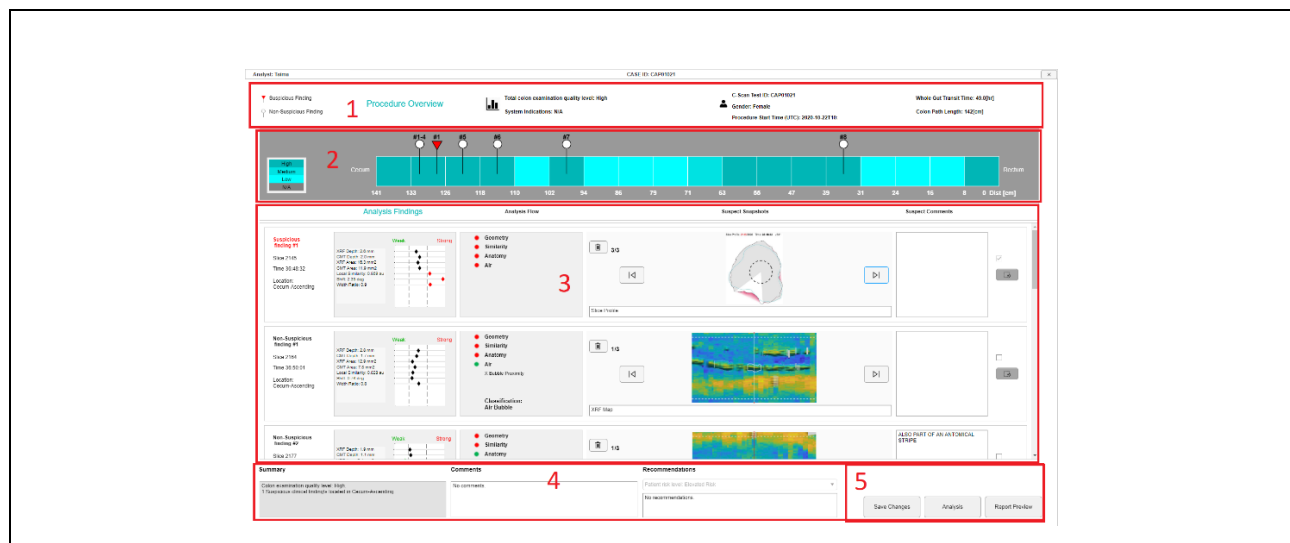

Figure 91: Pre-Analysis Summary Highlights
- Procedure general information (#1 in Figure 91)
- Procedure quality information (#2 in Figure 91)
- Suspicious and Non-suspicious findings table (#3 in Figure 91)
- Procedure summary, comments and recommendations (#4 in Figure 91)
- Action buttons (#5 in Figure 91)
Procedure Overview (#1 in Figure 91) includes:
Procedure quality information (#2 in Figure 91)
Findings table (#3 in Figure 91)
All findings can be viewed with additional data directly in analysis window by clicking the **Analysis** button (see #5 in Figure 91) or the **jump to suspect analysis** button  to jump to a specific suspect in the analysis window. Return to pre-analysis summary by clicking the **Show summary** button. Going back to analysis window, changes can be made to pre-analysis; suspects can be added/removed.
Procedure summary, comments and recommendations (see #4 in Figure 91)
Action buttons (#5 in Figure 91)